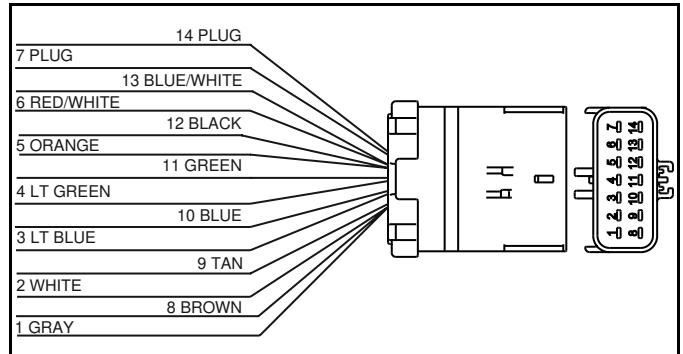

Figure 5
5. Review Figure 5 to make sure the wires are in the correct pin location. Then re-install the secondary lock for the Gray 14 pin connector and place the wires back inside the loom.